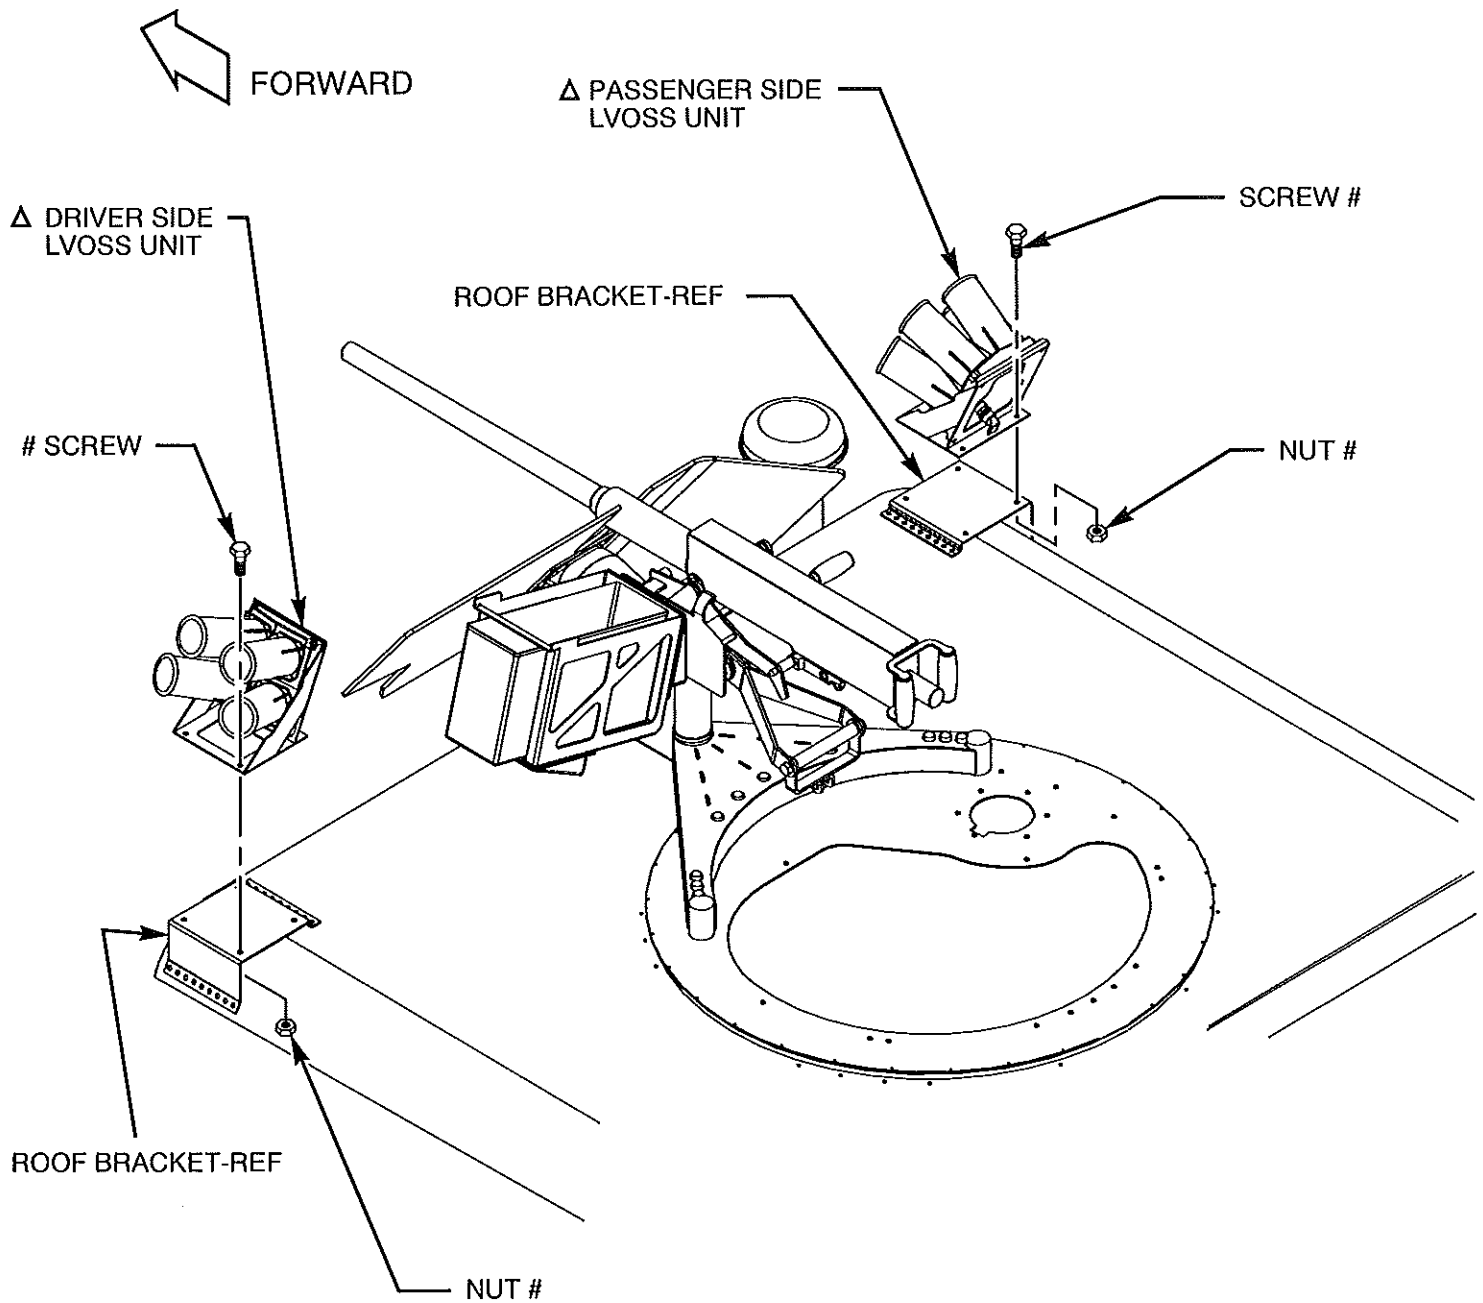

FIGURE 5
- C. REMOVE FOUR NUTS AND SCREWS SECURING DRIVER SIDE FRONT LVOSS UNIT TO ROOF BRACKET AS SHOWN IN FIGURE 5. DISCARD NUTS AND SCREWS.
- D. REMOVE FOUR NUTS AND SCREWS SECURING PASSENGER SIDE FRONT LVOSS UNIT TO ROOF BRACKET AS SHOWN IN FIGURE 5. DISCARD NUTS AND SCREWS.